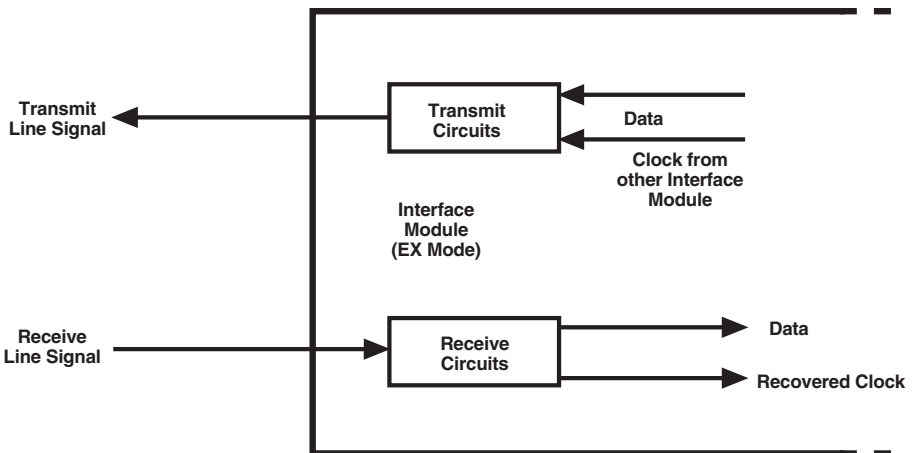

Figure 2-5. Flow of timing signals for EX mode.
- EX—the transmit clock is locked to the clock signal provided by the receive path of the other interface module installed in the Modular Modem Eliminator. **Figure 2-5** shows the flow of timing signals for external timing.